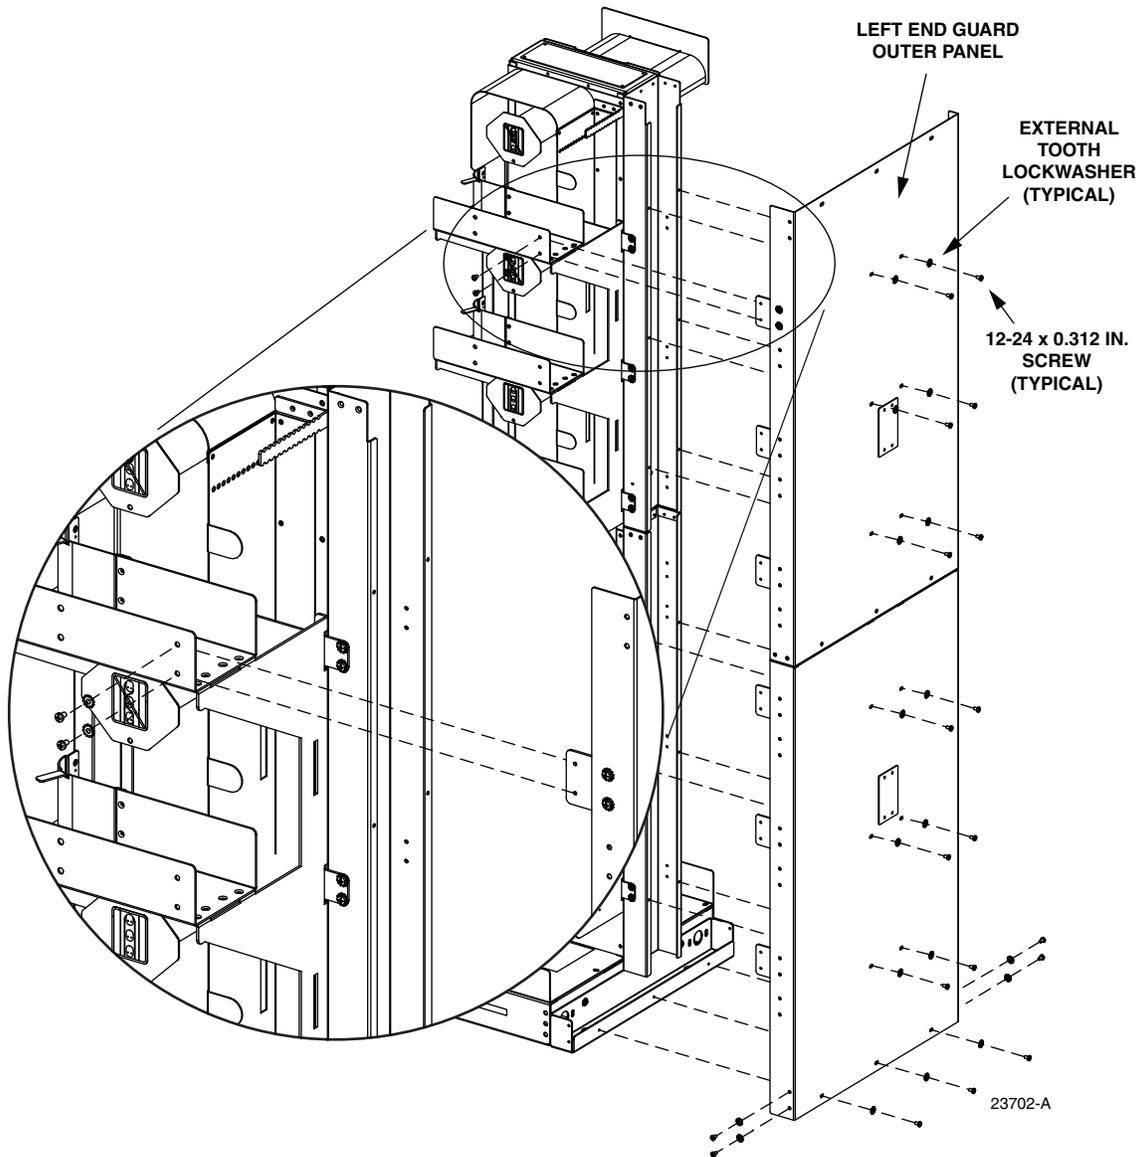

Figure 18. Assembling End Guard on FOTSP
5. Assemble the end guard to the FOTSP in the orientation shown in Figure 18, positioning the six rear end guard mounting brackets on the inside surface of the rear trough of the FOTSP. Fasten each individual bracket to the rear trough using two 12-24 x 0.312 inch screws and two external tooth washers, as shown.